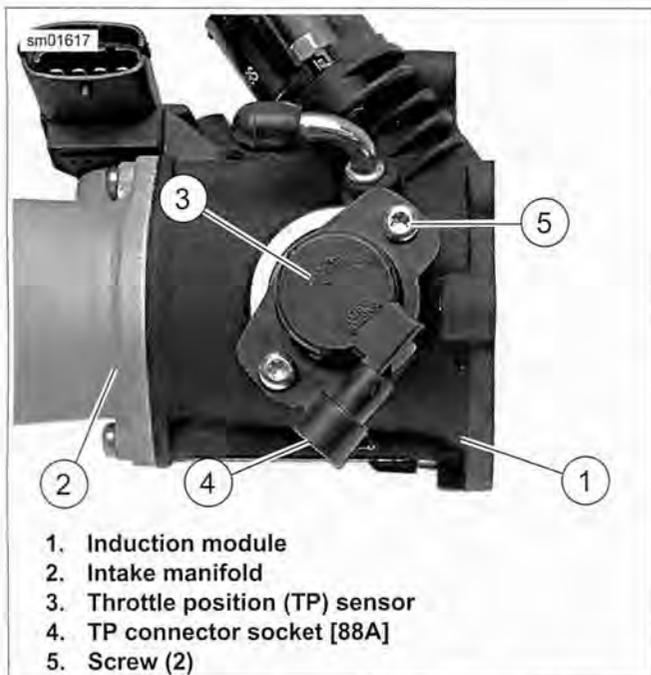

Figure 4-21. Throttle Position (TP) Sensor Removal: XL Models
3. See Figure 4-21. Unplug TP sensor harness connector [88B] from connector socket [88A] (4). Cover both connectors with tape.
4. Remove two screws (5) and detach TP sensor (3) from induction module (1).
- See Figure 4-21. Note orientation of TP sensor (3) relative to induction module (1) body; connector socket is at approximately the 7 o'clock position, facing toward intake manifold (2).